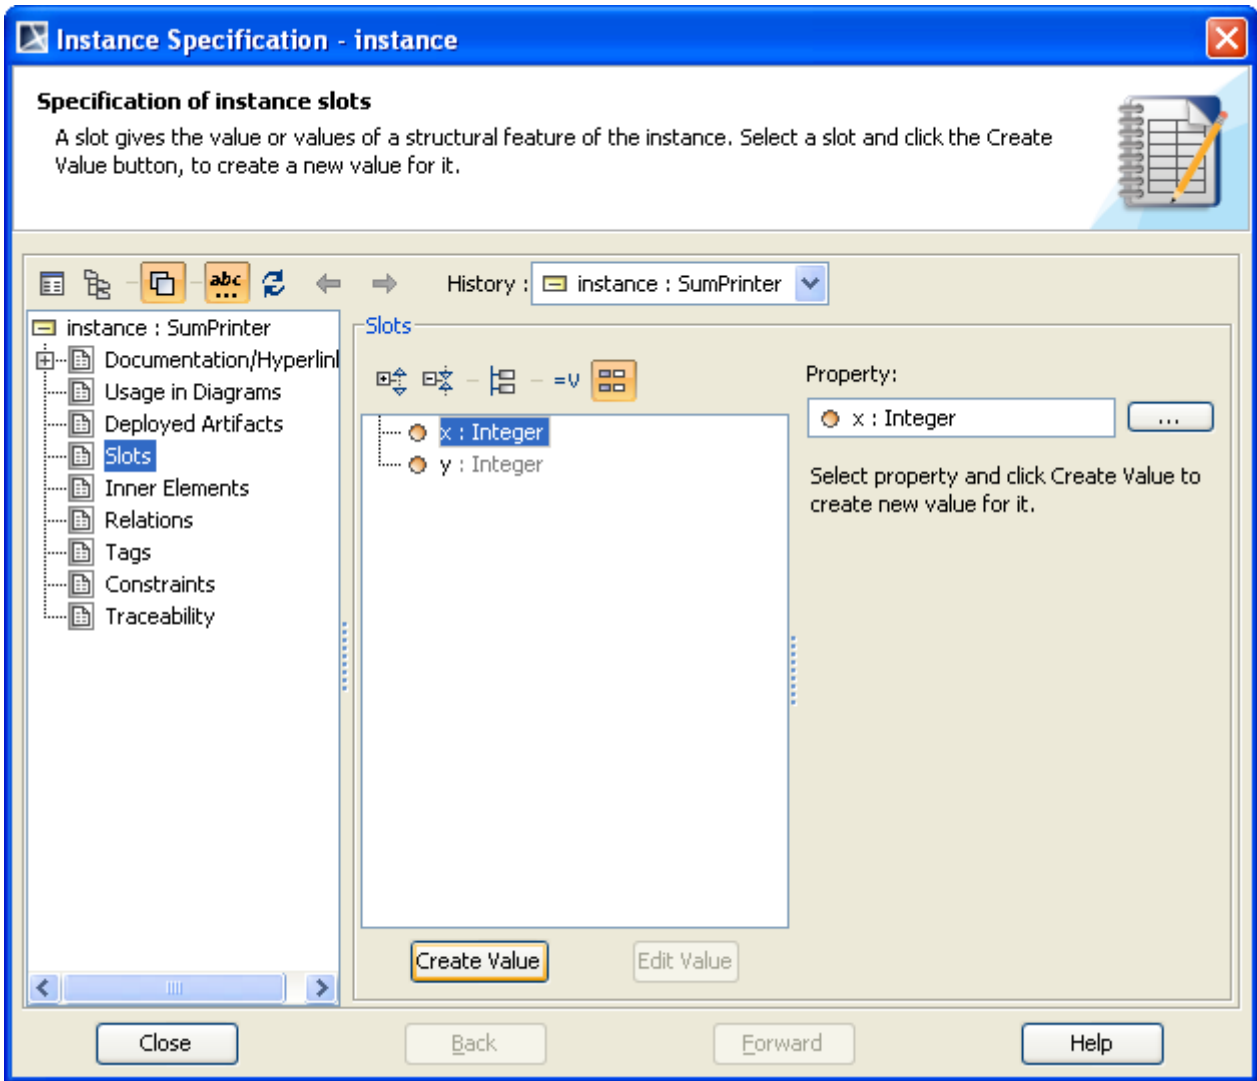
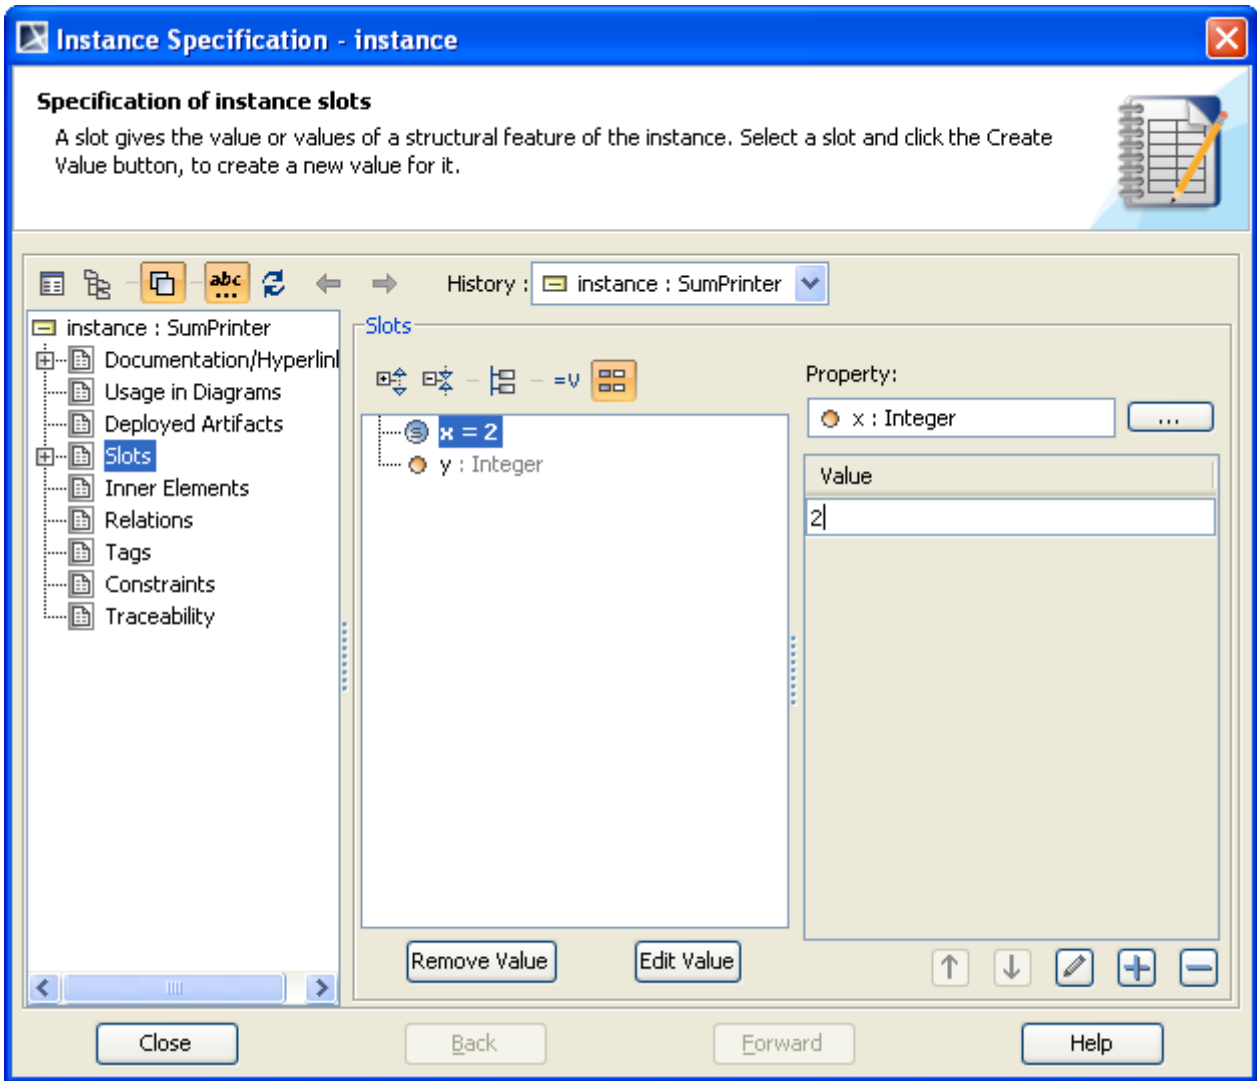

Figure 74 -- Creating Slot Value of x
Figure 75 -- Assigning Value to Property x Slot
6. Click **Slots** on the left-hand side pane of the **Specification** dialog and select **x:Integer** (Figure 74).
7. Click the **Create Value** button to create a new value of the slot (Figure 74). The **Value** box will open (Figure 75).